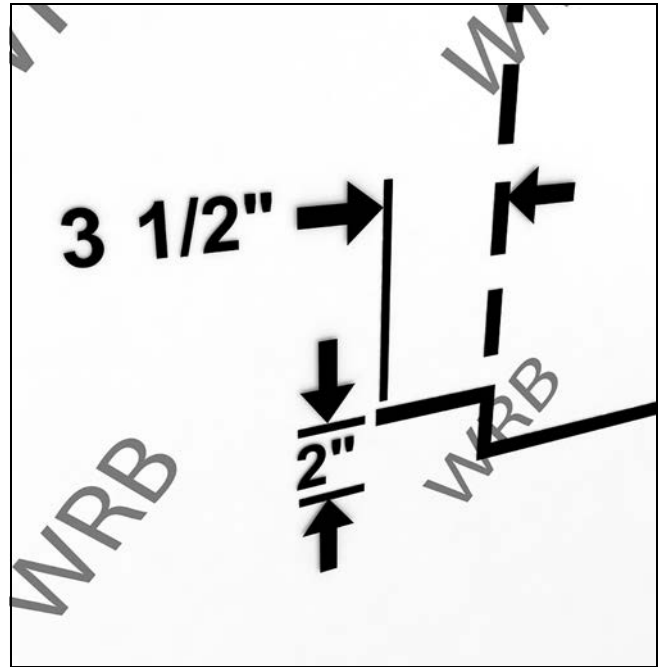

Figure 11
2. Trim up from the bottom corners about 2" (51) and then make an additional horizontal cut about 3 1/2" (89) wide. See Figure 11.